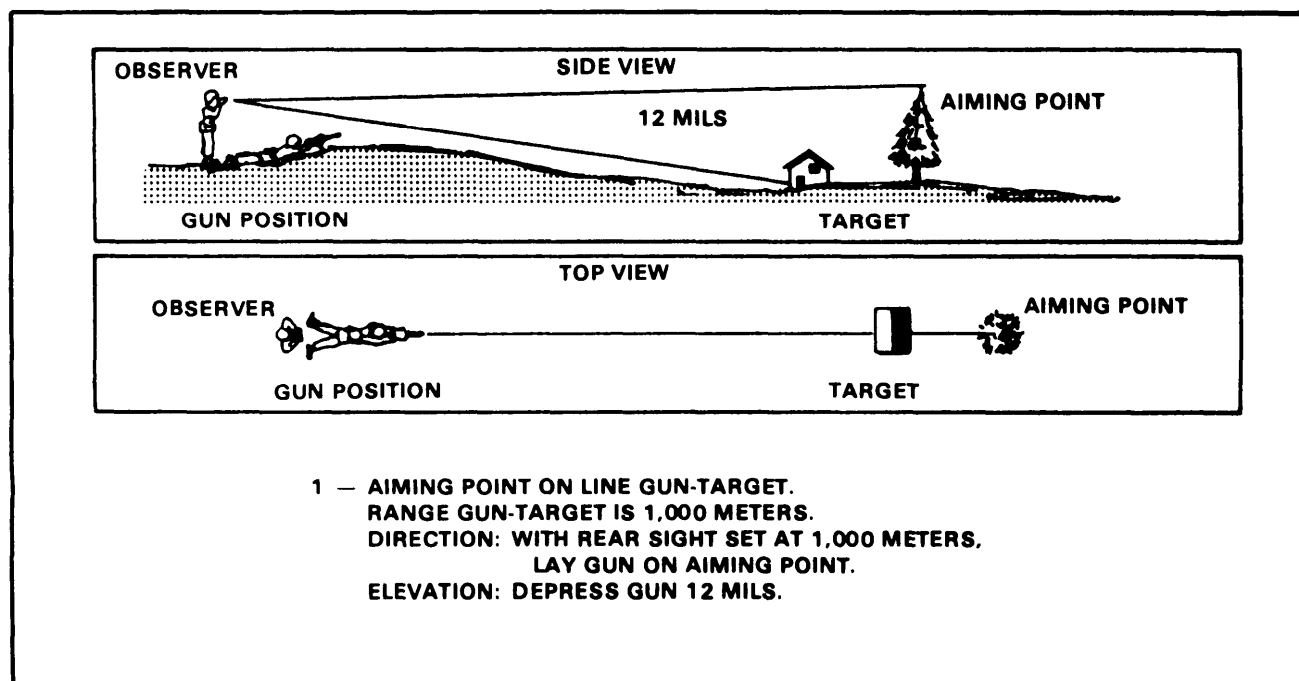

Figure 6-26. Aiming-point-method for elevation.
c) Aiming-point method. The gunner selects an aiming point visible from the MK 19 position--preferably a point at a greater range than the target and at a higher elevation than the target-- and the leader finds the range to the target. Using binoculars, the leader measures the vertical angle in mils from the aiming point to the base of the target. The leader has the gunner lay the MK 19 on the aiming point, with the sight set to hit the target, and directs the gunner to manipulate the gun through the number of mils measured. For example (Figure 6-26), the range to the target is 1,000 meters. The angle read with the binoculars from the aiming point down to the base of the target is 12 mils. The sight should be set at 1,000 meters, the MK 19 laid on the aiming point, and the muzzle then depressed 12 mils.
(3) Mask clearance. After the gun(s) has been laid, the leader must determine whether or not the entire cone of fire will clear the mask, if mask clearance is not obvious. In order to ensure mask clearance, the leader